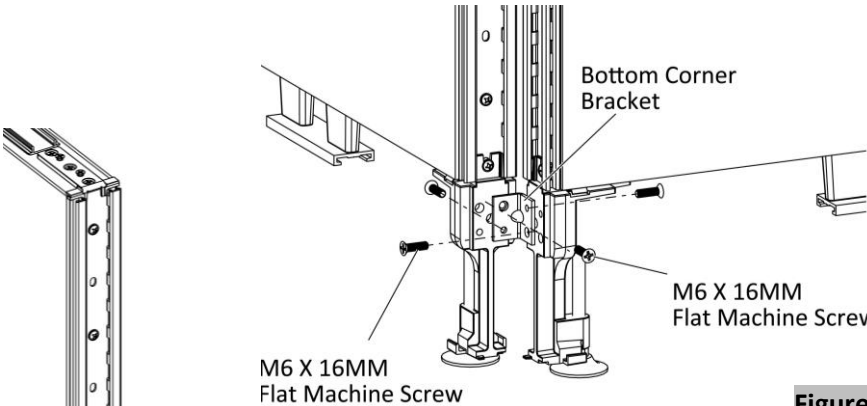

Figure 3
- Securely fasten the bottom corner bracket to the panel legs with four M6 X 16MM Flat Machine Screws, (Figure 3).